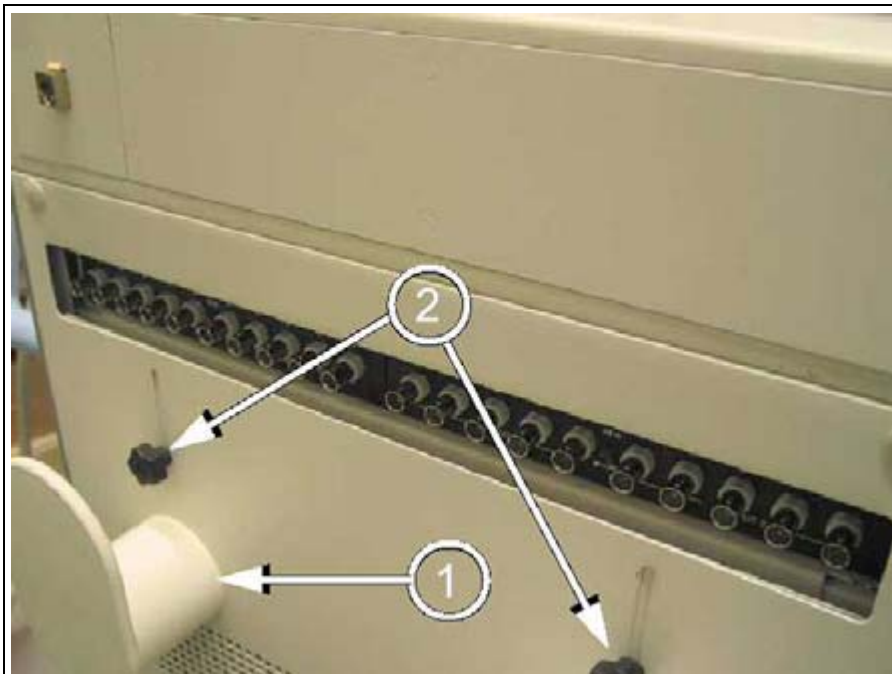

Fig. 7: Slider
15. Mount the cable holders (1/Fig. 7 / p. 10) from the old rear cover on the new rear cover.
16. Mount the slider (2/Fig. 7 / p. 10) on the new rear cover.